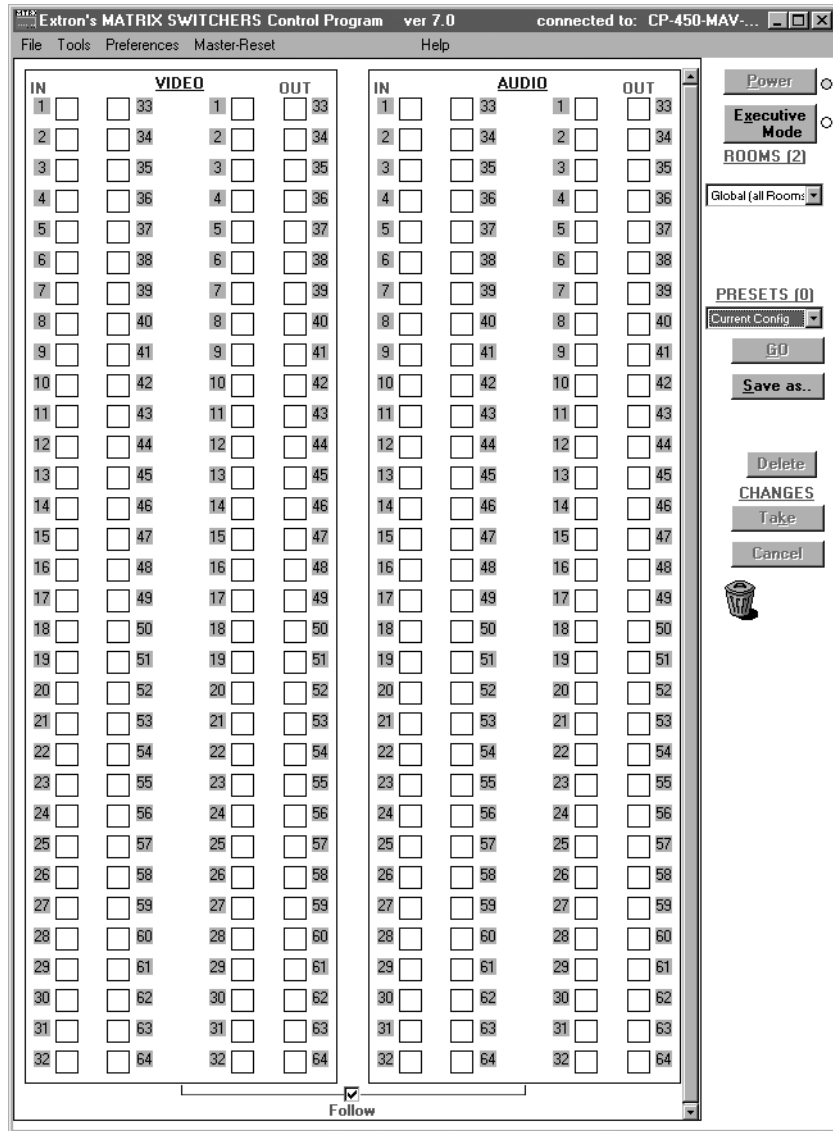
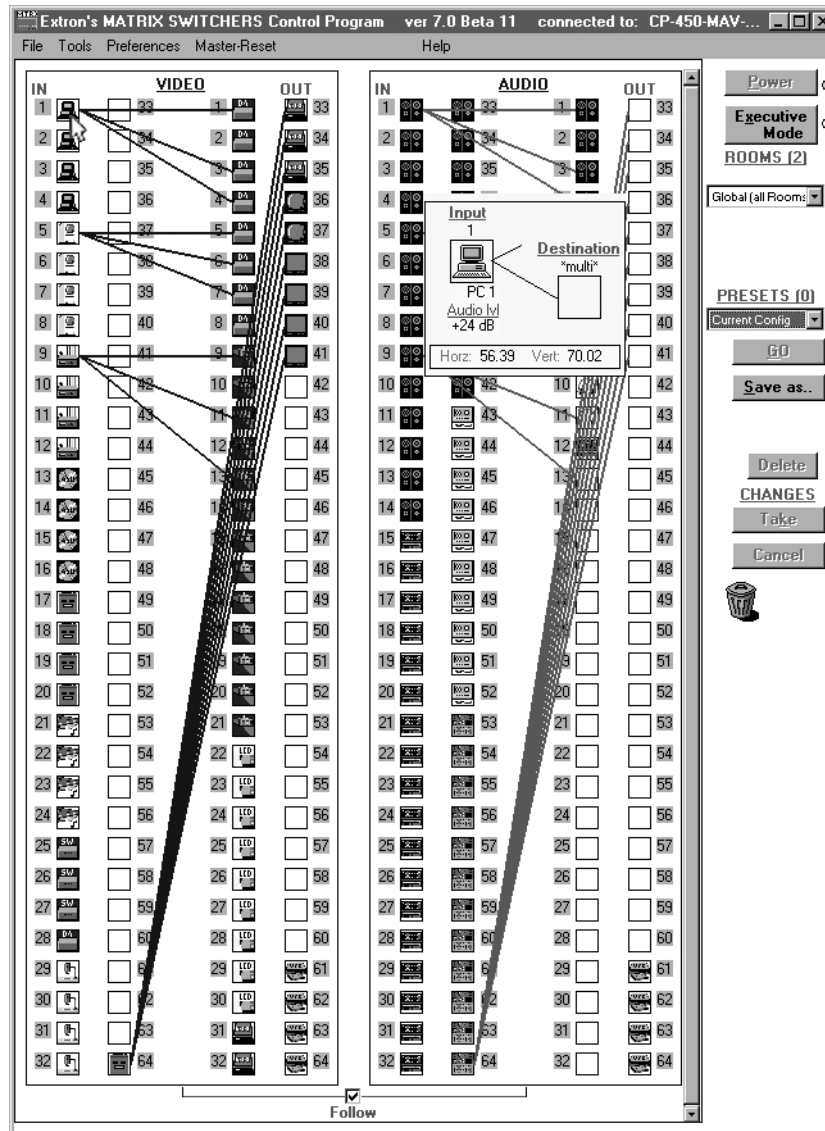

Figure 5-3 — Matrix Switcher Control Program window (no ties or icons)
Figure 5-4 — Matrix Switcher Control Program window (ties and icons assigned)
- The Extron Matrix Switcher Control Program window (figure 5-3 and figure 5-4) appears. The window displays the current configuration of the attached matrix.
- For quick display of information on a specific input or output device, position the cursor over that device in the control program window. The program opens a window that details the connections to that device, the audio level, and, for systems with CrossPoint 450 Plus switcher BMEs only, the switching interval (RGB delay) and the frequency of the video signal input from or output to that device. See the inset box in figure 5-4.